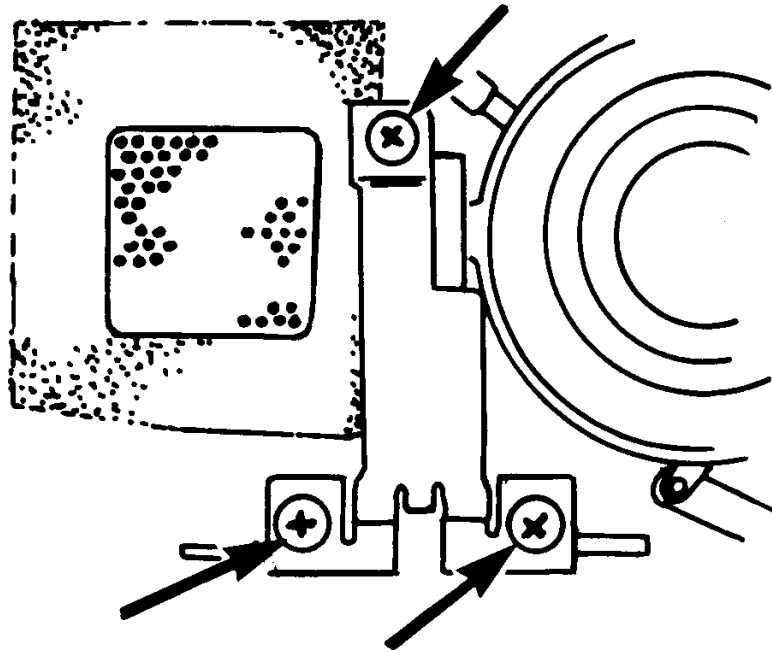

Figure 4-10 Removing Bracket Screws
4.1 Remove three screws from bracket. (Fig. 4-10)